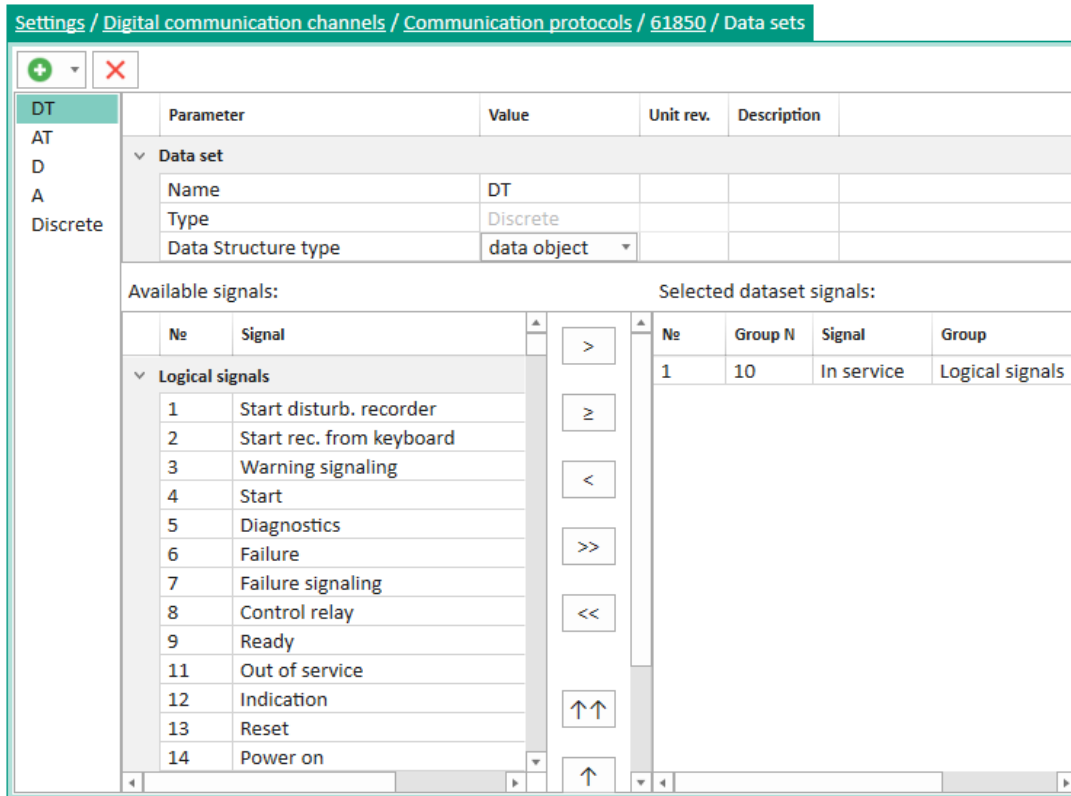

Figure 120 – Parameters of data sets
5) Parameters of data sets (figure 120).